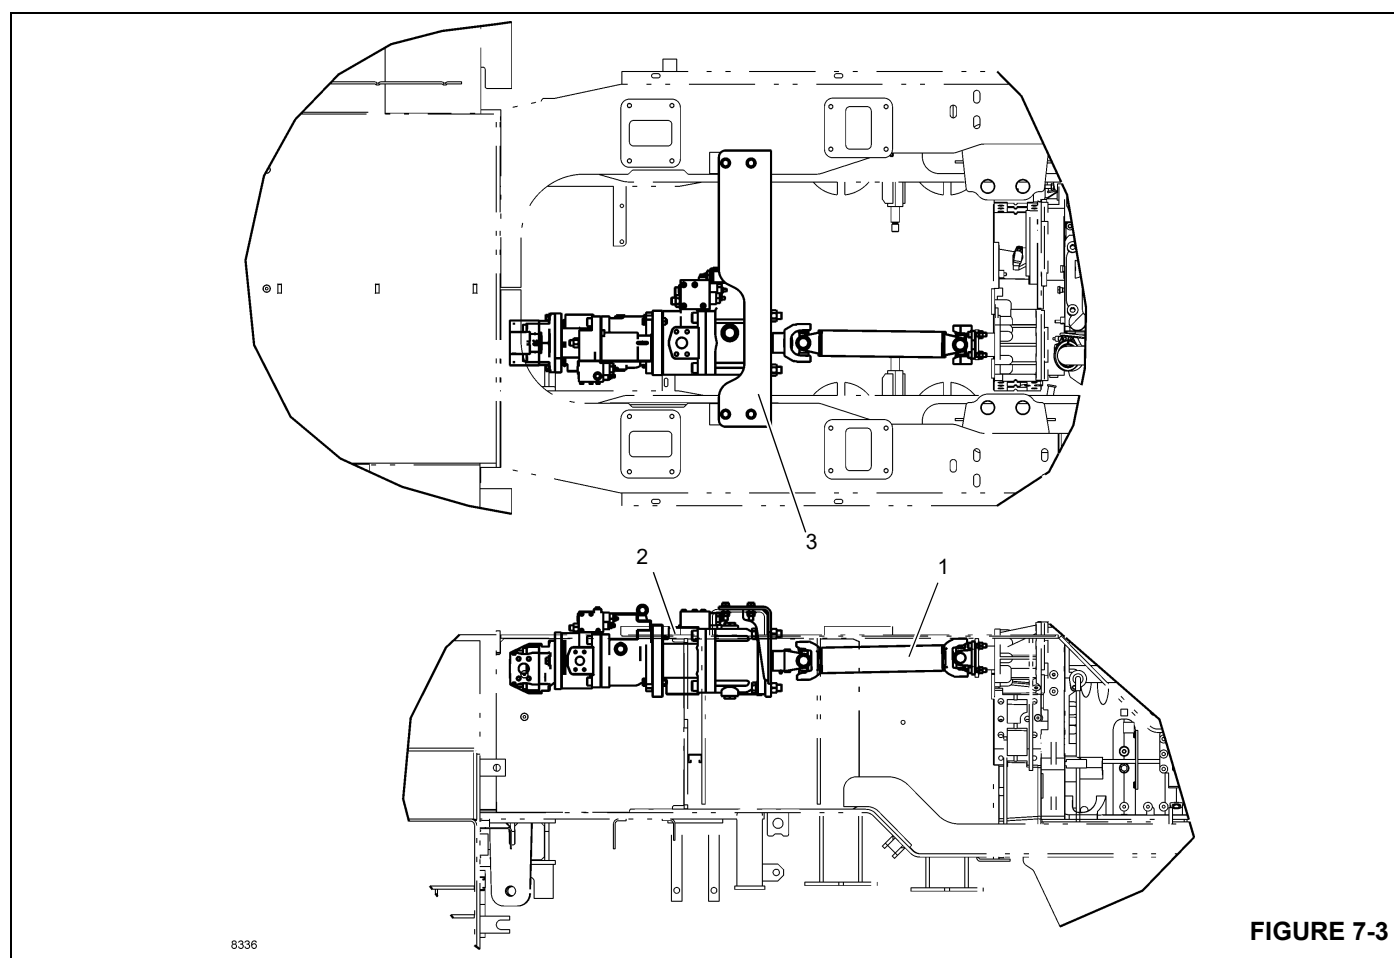

FIGURE 7-3
The PTO driveline (1) (Figure 7-3) powers the no. 1 pump (2) in the QSM engine installation.